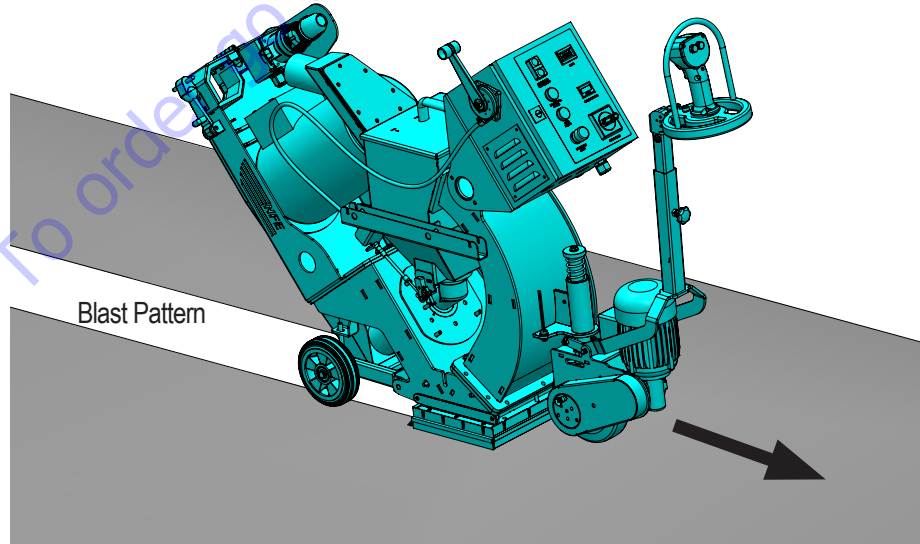

FIG. 19
### Starting the Machine (Figure 19)
- Continue to slowly move the machine forward and watch the blast area carefully. See Figure 19. If necessary, readjust the blast pattern (see Adjusting the Blast Pattern), use the shot valve stop to adjust the maximum opening of the shot valve, or change the travel speed of the machine to achieve the desired profile.